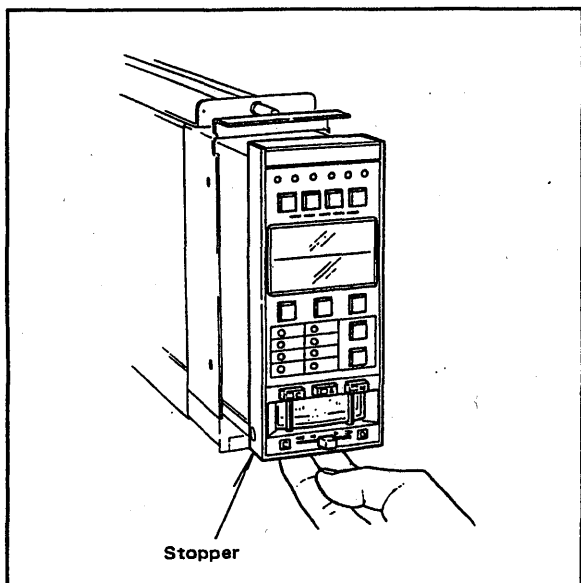

Figure 5-2-1. Pulling Out Internal Assembly.
- ① Pull out the internal assembly by pushing up the stopper while holding the bottom front of the instrument with the fingers. When it is pulled out halfway, it is locked by an intermediate stopper. (Fig. 5-2-1)